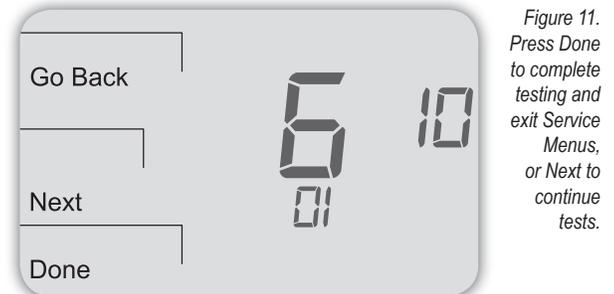

Figure 11.
3. In Service Menu 610, press **▲** / **▼** to select option "01," Heat Stage 1 (see Fig. 11). **Note:** If 01 is selected, the thermostat will activate the associated output for 10 minutes. The user should observe that the fan output (with heat) turns on. The user may also test more stages of heat according to what is available for the system type.